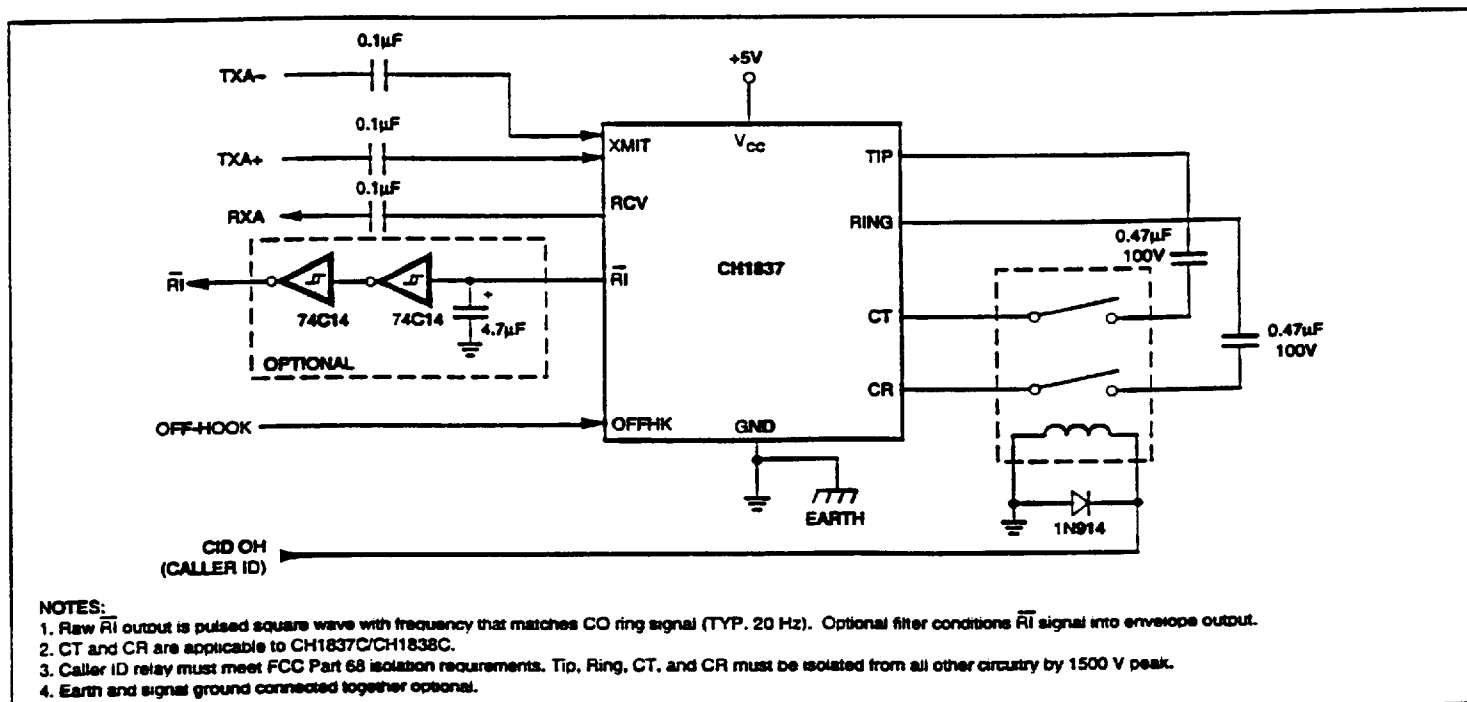

Figure 2. Typical Application
To announce an incoming call, the telephone company's central office (CO) applies an AC ringing signal to the phone line. The DAA is designed to detect the signal. The \overline{RI} is set Low during the typically 2 second ring period and is restored to High for the typically 4 seconds between rings. During the active state, the \overline{RI} output is pulsed at the same frequency as the AC signal, typically 20 Hz. Figure 2 shows additional filtering which may be used to provide an envelope indication of the ring signal's presence. The ring detection circuit is designed to deter false indications due to pulse dialing or noise on the line.
The outgoing analog signal to be transmitted through the phone line should be applied to the XMIT(-) pin (with respect to GND) and must be AC coupled, as shown in Figure 2. The XMIT(+) pin must be connected to GND via a 0.1 μ F capacitor for proper single-ended input operation. For the CH1837 in differential mode use pins XMIT(+) and XMIT(-). The CH1837 does not attenuate the transmit signal. Therefore, a transmit signal of -9 dBm applied to XMIT will comply with the FCC part 68 requirement for data signals of -9 dBm across Tip and Ring. (Note: The FCC does not currently maintain specific signal strength requirements for voice signals or DTMF dialing signals. DTMF dialing signals have a "recommended" strength of 0 to -2 dBm.)
With the CH1837C and the CH1838C, there are two pins more than the other members of the CH1837/CH1838 Family. These pins are CR and CT. By connecting these pins through capacitors and switches to Tip and Ring, the Caller ID signal, which is generated between the first and second rings, can be presented at the RCV output pin. (See Figure 2.)